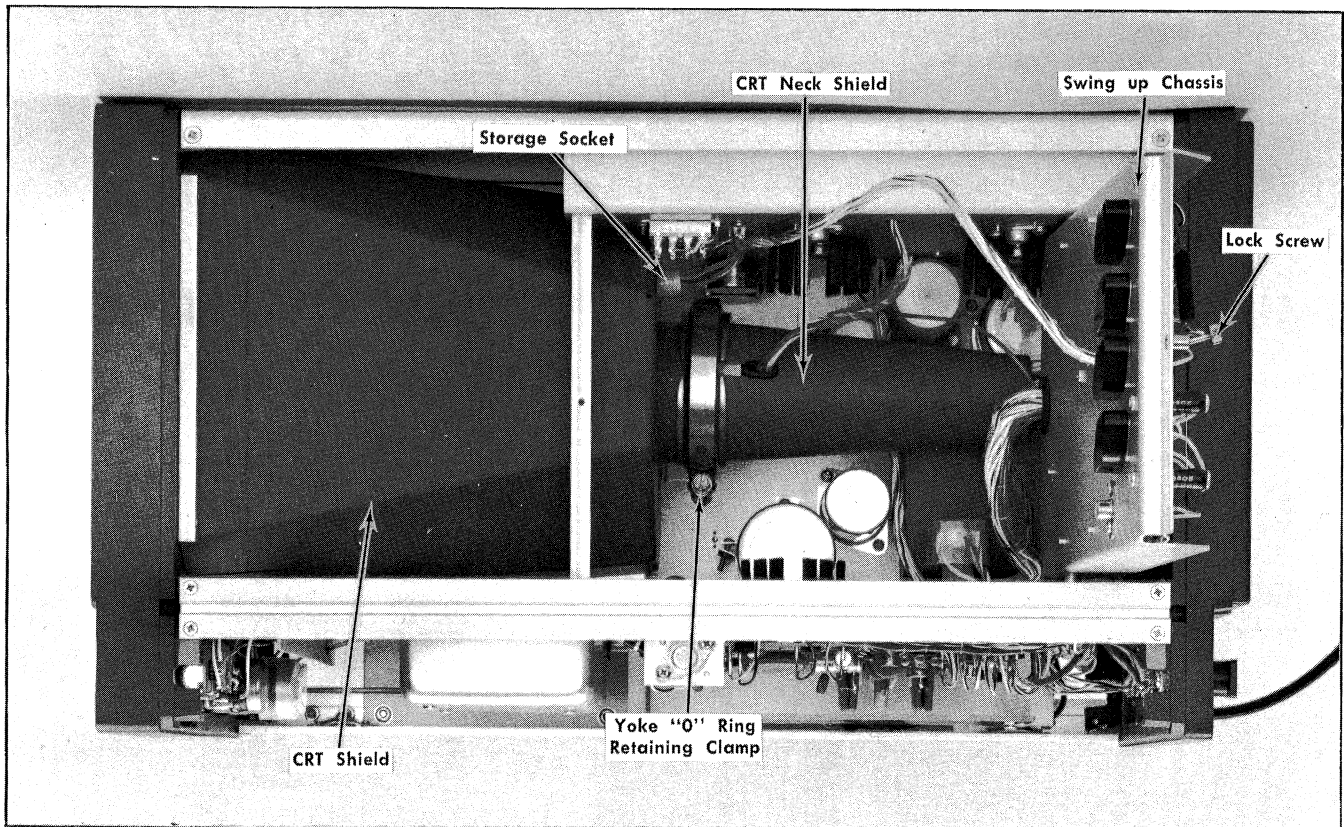

Fig. 4-6. Type 611 with swing up chassis raised.
2. Remove the left dust cover to expose the top of the instrument and raise the swing-up chassis (see Fig. 4-6).
6. Disconnect the storage socket from the CRT (see Fig. 4-6). Loosen the yoke "O" ring retaining clamp (see Fig. 4-6) to relieve the strain on the neck of the CRT for the steps that follow.
5. Install the four spacers and nuts but do not tighten the nuts at this time. Remove the yoke "O" ring retaining clamp (see Fig. 4-6). Slide the yoke and neck shield to the rear so the yoke is located just to the rear of the flange on the front CRT shield. (Moving the yoke out of the way of the front CRT shield allows the front mounting nuts to be tightened without placing undue stress on the CRT neck in the event that the neck is thrown off center while tightening the nuts.)